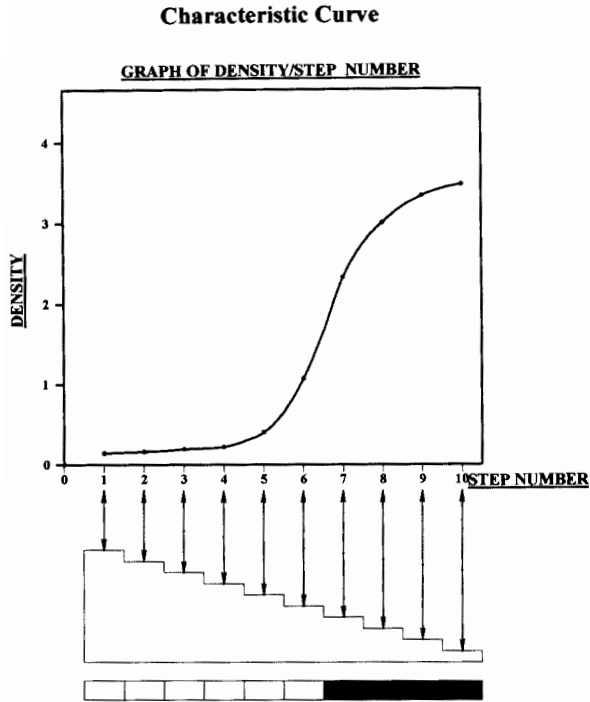

Fig 5-2. A typical characteristic graph showing relationship of density to step number
- Join up all plots to form a free flowing curve (see Fig 5-2).